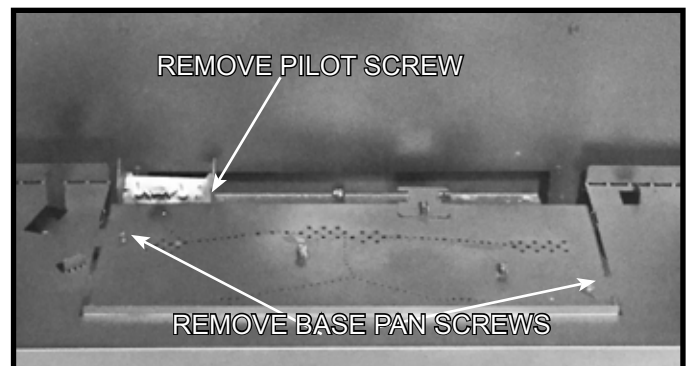

Figure 1. Remove Screws - Generic Burner Shown
2. Remove the two screws that secure the base pan to the burner assembly and remove base pan from appliance. See Figure 1.
3. Remove the screw that secures the pilot assembly to the burner. See Figure 1. Retain screw for future use. Gently move the pilot assembly upward about two inches.